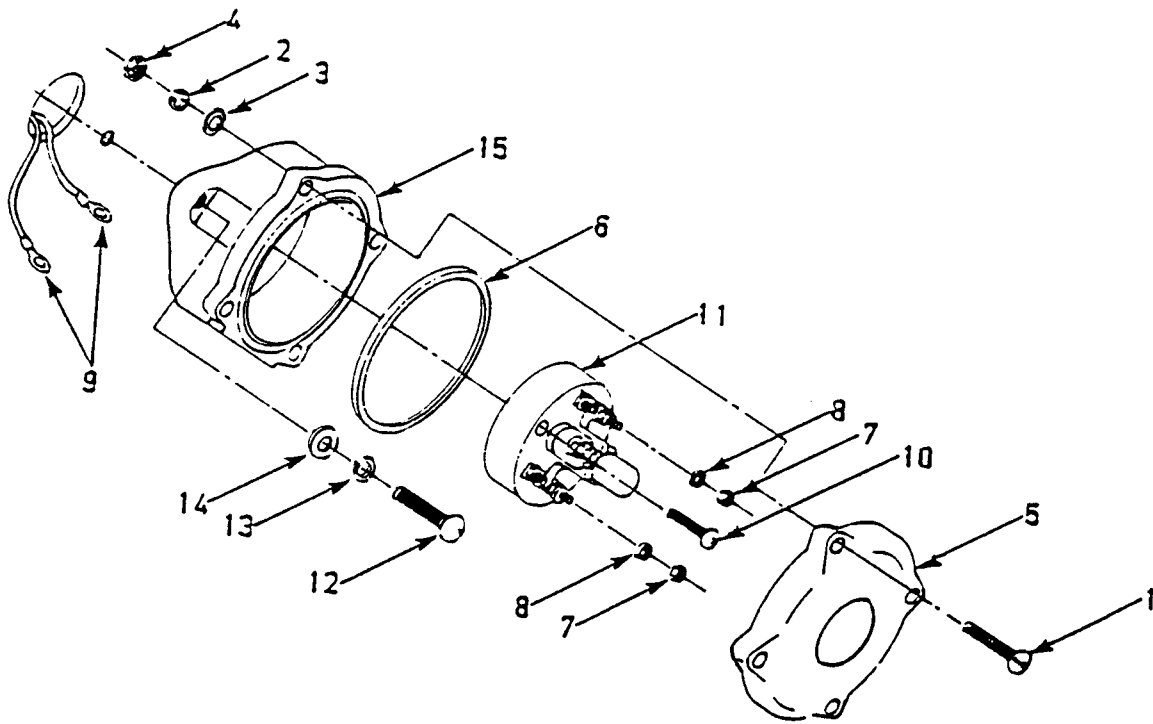

Figure 4-19. Blackout Warning Assembly
(1) Switch.
(a) Remove push button switch screws (1, Figure 4-19), lockwashers (2), flat washers (3), and nuts (4) from switch cover (5).